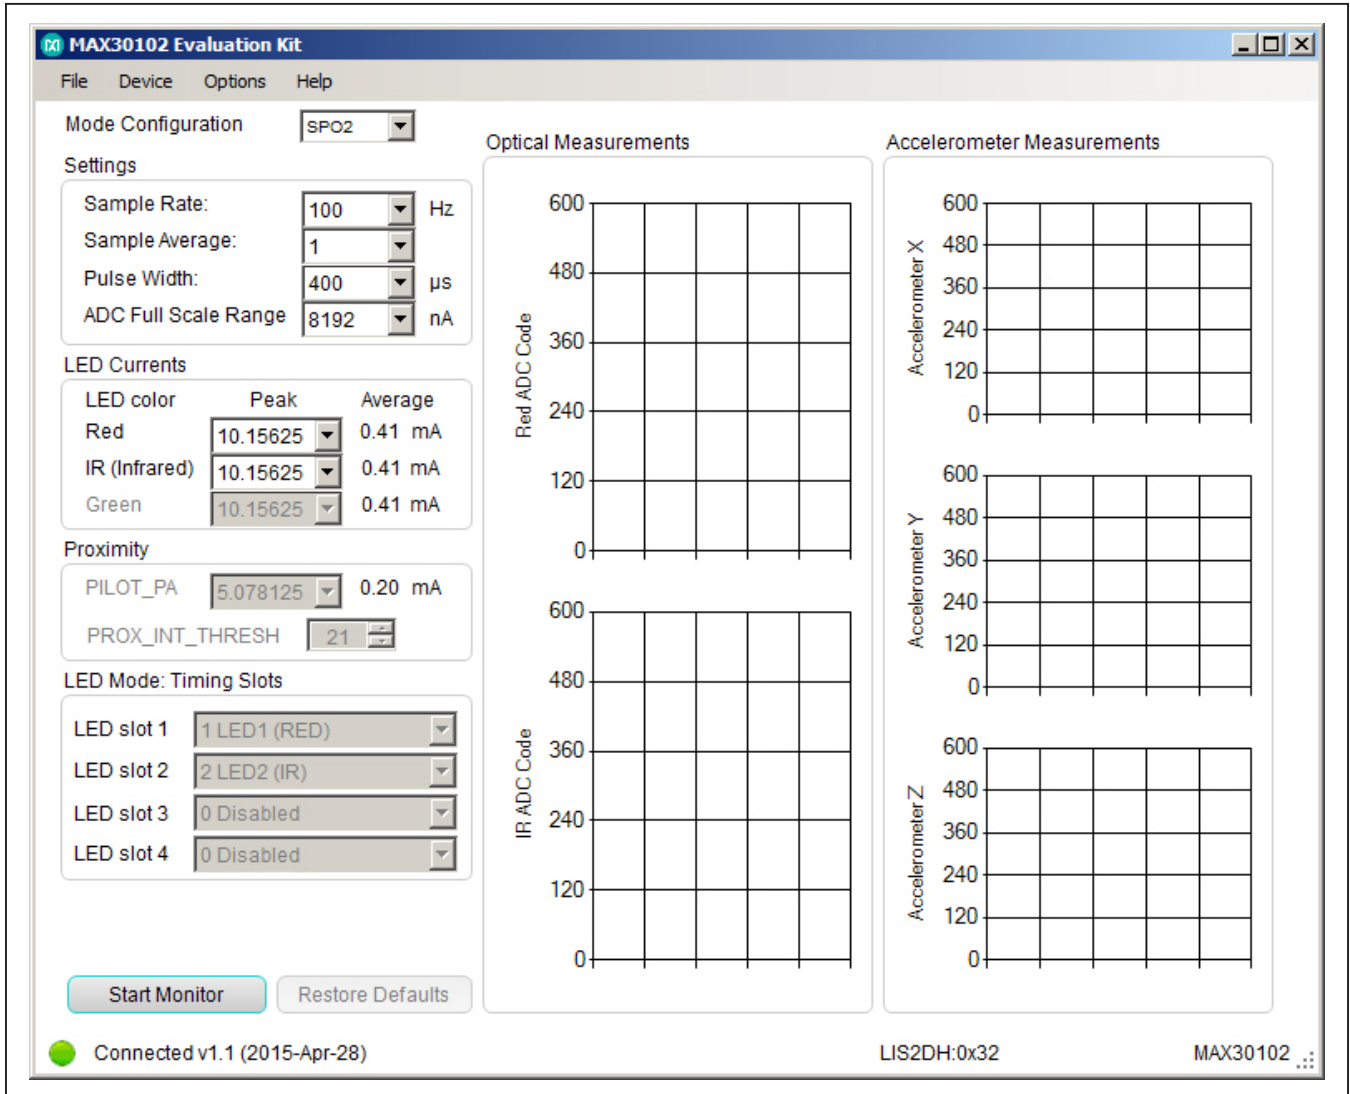

Figure 1. MAX30102 EV Kit Main Window
- 5) Open the MAX30102EVKit.exe and verify that the EV kit is connected by observing the status bar at the lower left corner of the GUI. See Figure 1.